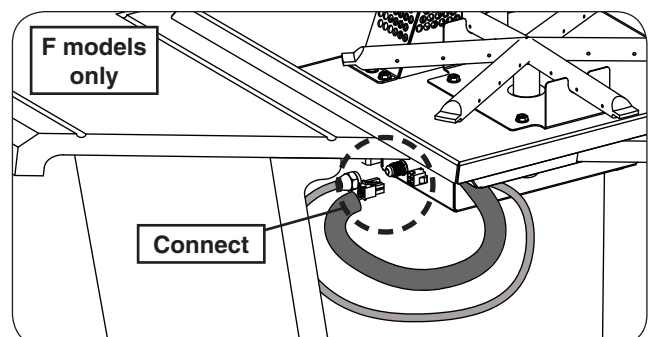

Fig. 25-5 Connect pilot line and electrical
7. **F Models: connect pilot line and electrical to control box** (See Fig. 25-5).